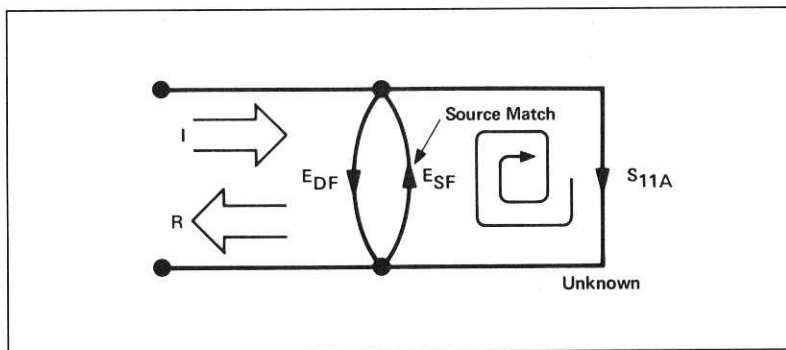

Figure A5-4
Since the measurement system test port is never exactly the characteristic impedance (50 ohms or 75 ohms), some of the reflected signal bounces off the test port, or other impedance transitions further down the line, and back to the unknown, adding to the original incident signal (I). This effect causes the magnitude and phase of the incident signal to vary as a function of S_{11A} and frequency. Leveling the source to produce constant (I) reduces this error, but since the source cannot be exactly leveled at the test device input, leveling cannot eliminate all power variations. This re-reflection effect and the resultant incident power variation are caused by the source match error, ESF (Figure A5-4).